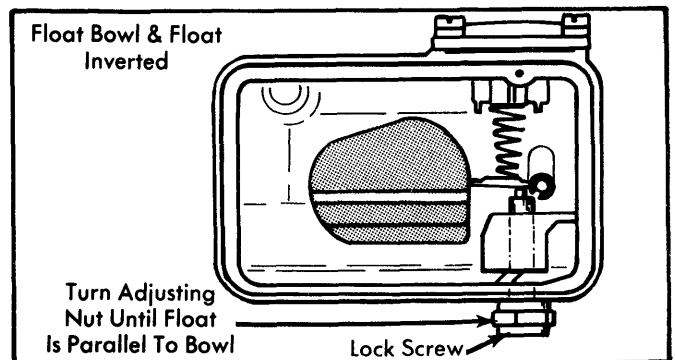

Fig. 2 Float Level Adjustment (Dry Setting)
- 1) Remove float bowl. Hold upside down. Float is adjusted correctly if top of float is parallel with float bowl. See Fig. 2.